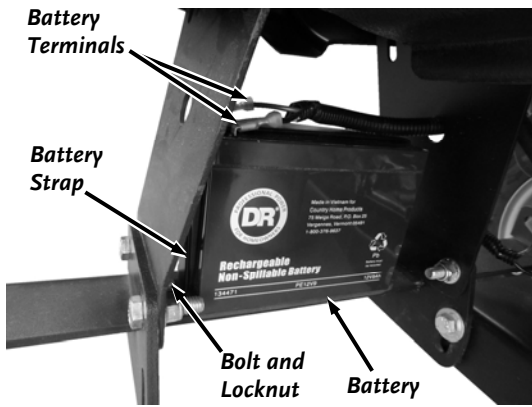

Figure 44
1. Disconnect the Battery Terminals (**Figure 44**).